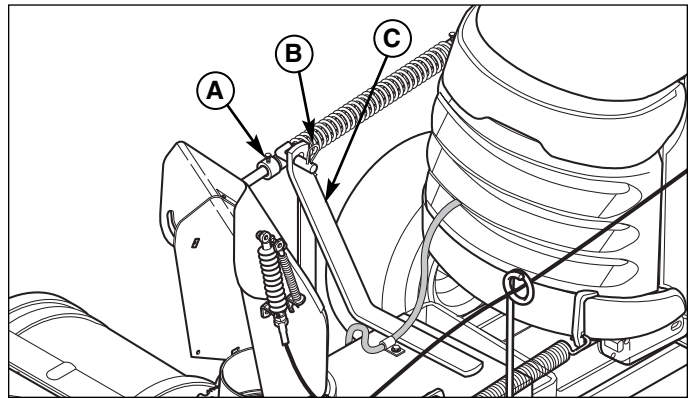

Figure 19. Lift Rod - Front
2. Attach the front of the lift rod assembly (A, Figure 19) to the lift arm (C). Secure with a hair pin clip (B).